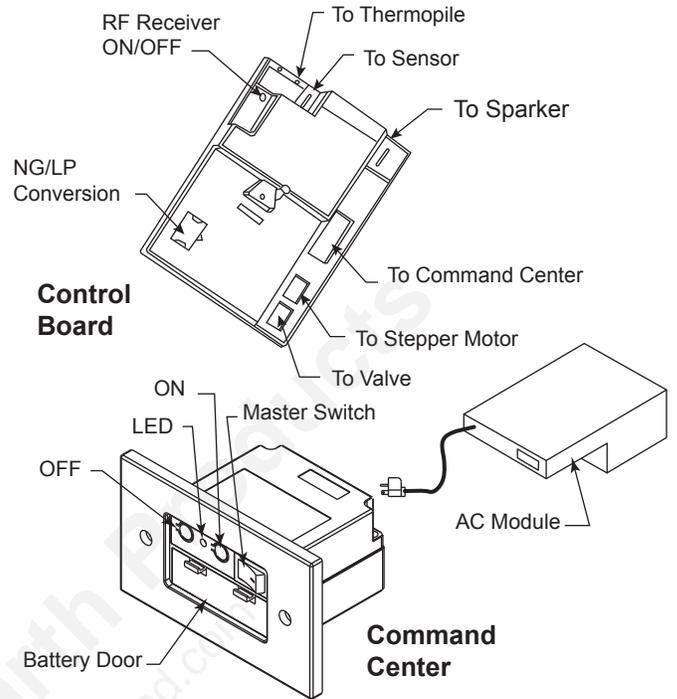

Figure 46 - Signature Command System Components
1. The RF receiver button located on the Control Board must be in the on position before the learn function can begin. Use paper clip to depress button. One beep for RF receiver ON or two beeps for RF receiver OFF will be given as confirmation. Refer to *Figure 46* for location.